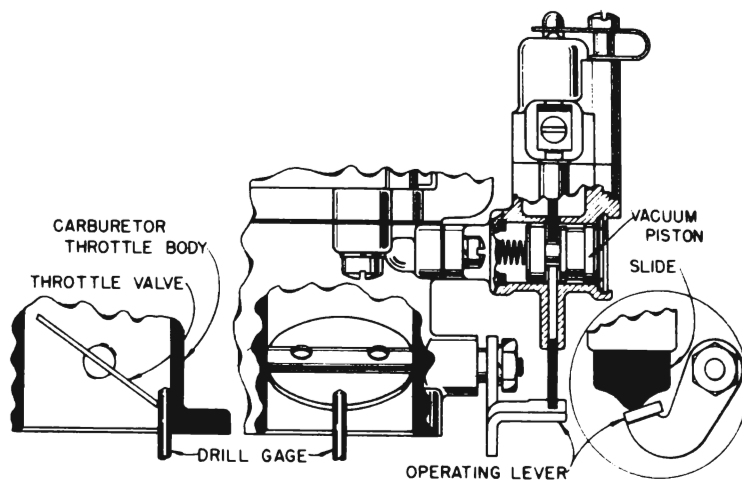

Figure 10-48—Setting Switch Timing with Carburetor Removed
2. Bend tang on switch operating lever until it just touches switch slide. See figure 10-48.